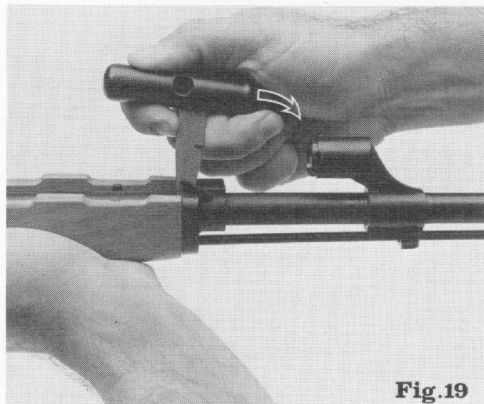

Fig.19
8. The lower forearm assembly may be removed by rotating the forearm latch lever up with the provided disassembly tool. The lower forearm can then be removed by pulling down and forward until free from the barrel assembly (**Fig. 19, 20**).